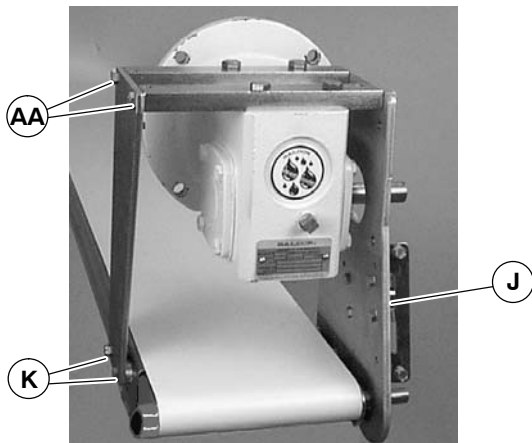

Figure 4
- 2a. For 4" (102mm) and wider conveyors, loosen two screws (AA of Figure 4). Attach top mount assembly (J) to conveyor with two screws (K) on each side of conveyor. Tighten all screws to 92 in-lb (10.4 Nm).